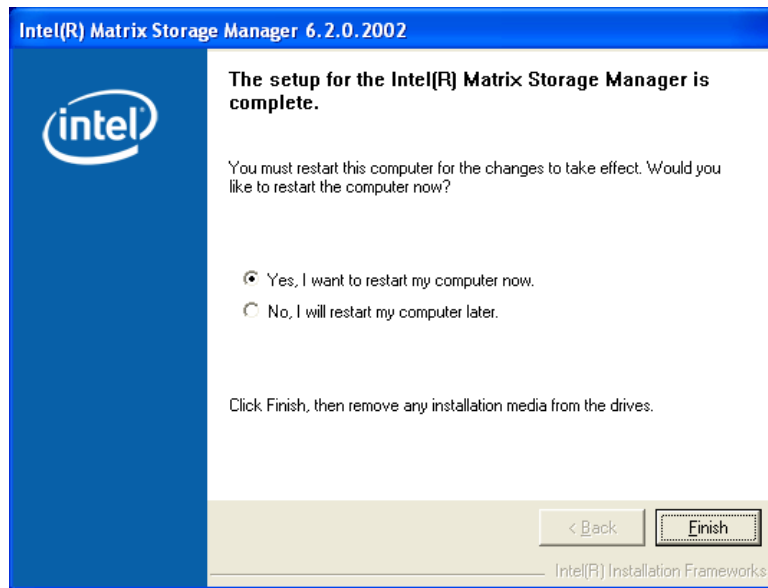

Figure 6-31: Matrix Storage Manager Setup Complete
Step 11: After the driver installation process is complete, a confirmation screen appears (**Figure 6-31**).